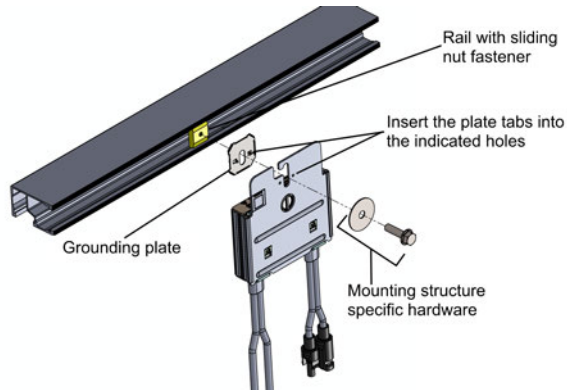

Figure 5: Power optimizer installation and grounding using a grounding plate
- **For mounting on rails with sliding nut fasteners:** If the star washer cannot be used, use the SolarEdge grounding plate (purchased separately) between the railing and the flat side of the mounting bracket. Use mounting specific hardware as needed. Apply torque of 9.5 N*m / 7 lb*ft. See *Figure 5*.